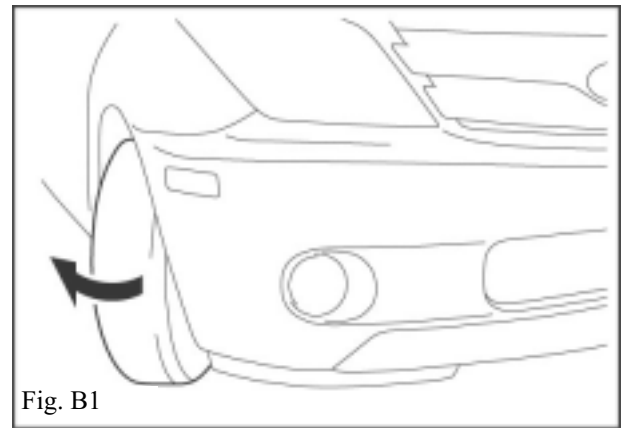

Fig. B1
2. Turn the steering wheel until it stops at full lock allowing access to the back of the front fender. (Fig. B1)